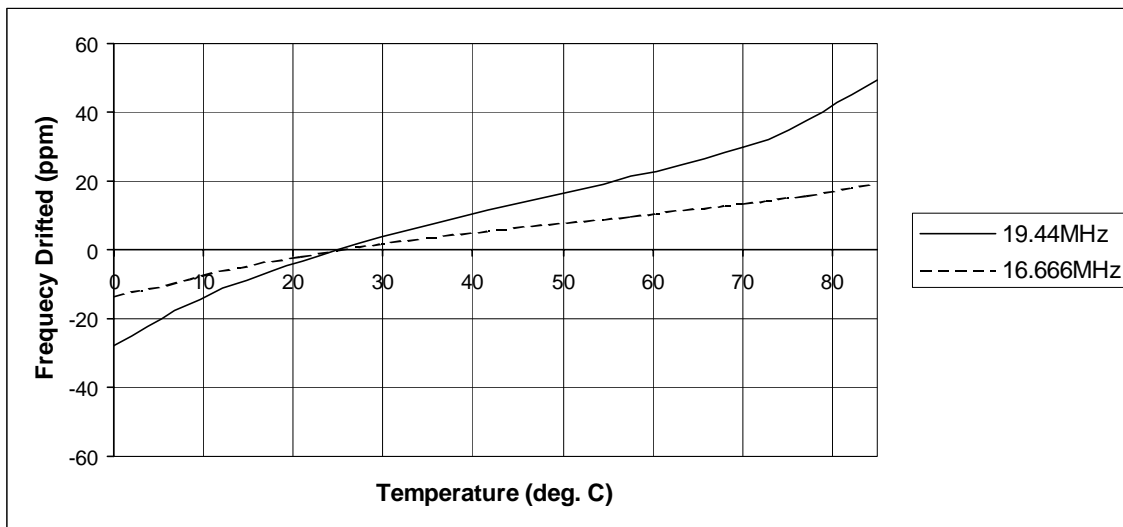

FIGURE 11 - CRYSTAL OSCILLATOR CIRCUIT FREQUENCY DRIFTED DUE TO TEMPERATURE VARIATION
*Figure 11* shows the experiment results of crystal oscillator frequency drift due to temperature variation.